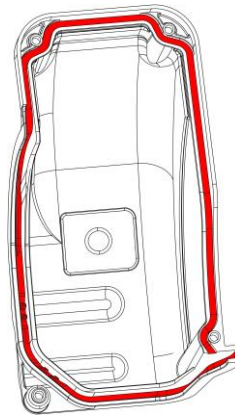

Figure 24 – Mains Cover Underside
3. Beginning on either end, place the "D" seal into the groove of the cover. Work the seal around until it reaches the other end. Make sure the end of the seal is flush with the end of the groove in the cover, then cut the seal. Refer to Figure 24 (Mains Cover Underside) for an illustration of the seal location under the cover.